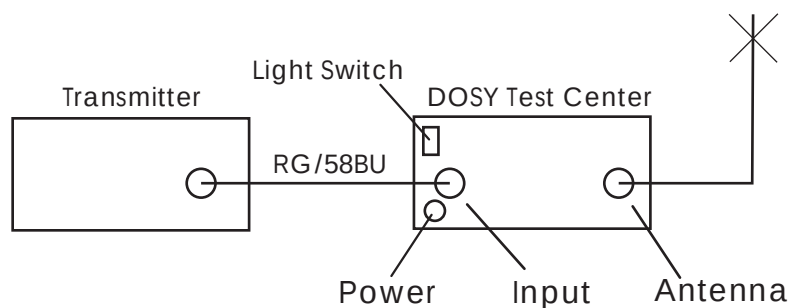

Figure 1
The TB-3001-P Test Center will indicate the power output (in watts) of your equipment at the point in the transmission line where you have installed the test center. To measure any power from 1 to 1000 watts, just set the RF Power Range Switch (#6 FIG. 1) to the appropriate range: 10, 100, 1000 watts. Key the transmitter and read the wattage on the corresponding scale of the RF Power Meter (#2 Fig. 1).
1. Operate SWR Set Control Switch (#4 Fig. 1) to Set Position.
2. Turn SWR RF Level Control (#5 Fig. 1) to Min.
3. Key transmitter and turn SWR RF Level Control clockwise (#5 Fig. 1) to give a full scale meter reading to Set Line on the SWR Meter (#1 Fig. 1).
1. Operate MOD SET Control Switch (#8 Fig. 1) to SET position.
2. Turn MOD RF Level Control (#7 Fig. 1) to Min.
3. Key transmitter and turn MOD RF Level Control (#7 Fig. 1) clockwise to give a full scale meter reading to Set on the Modulation Meter (#3 Fig. 1)
4. Operate MOD SET Control Switch (#8 Fig. 1) to MOD position. Key transmitter and talk or steadily whistle into the microphone. Read Modulation percentage directly on the modulation meter (#3 Fig. 1)